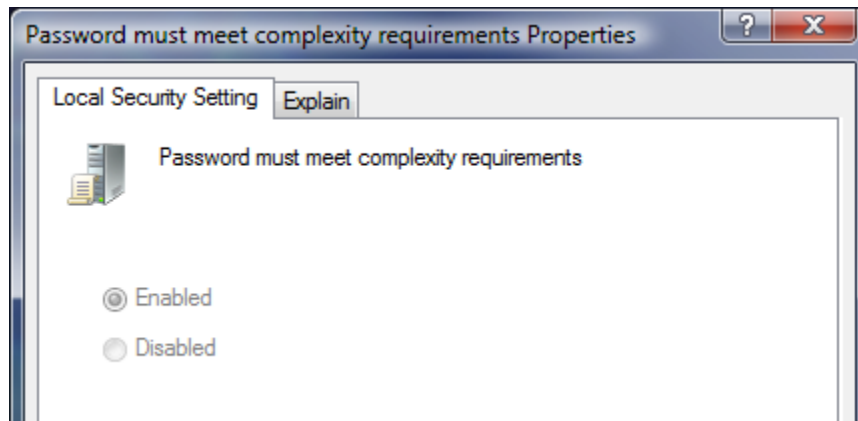

Figure II-8. Password Must Meet Complexity Properties Window
- a) Double-click the item to open the Password Must Meet Complexity Requirements Properties window, shown in Figure II-8.